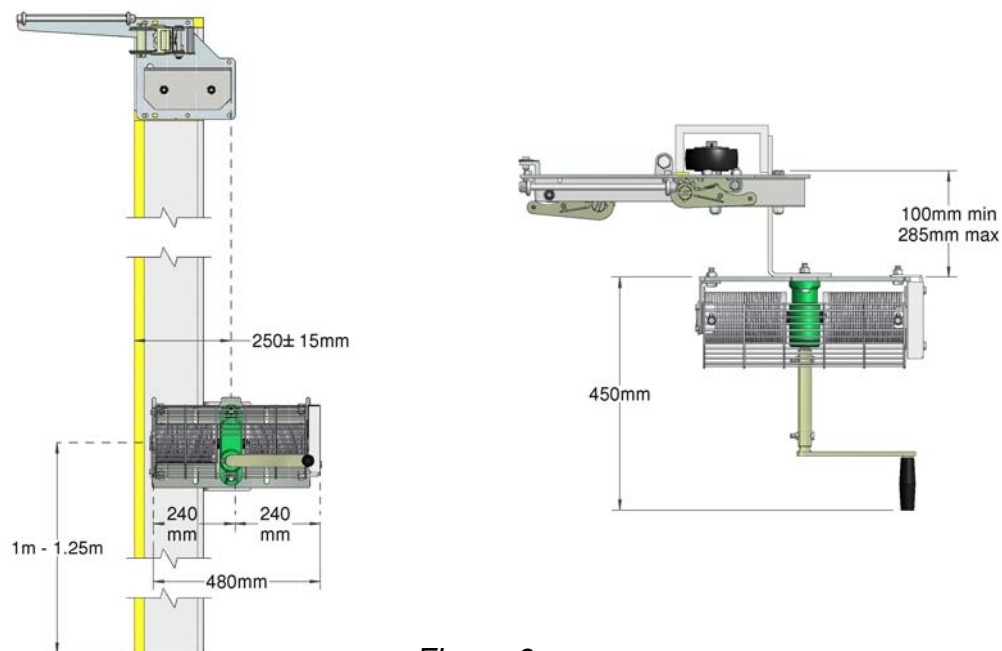

Figure 6
6. Figure 6 indicates the position of the manual drive and the space required for its operation. The drive must be vertical and its centre needs to align with the exit point of the lifting cable from the top bracket.